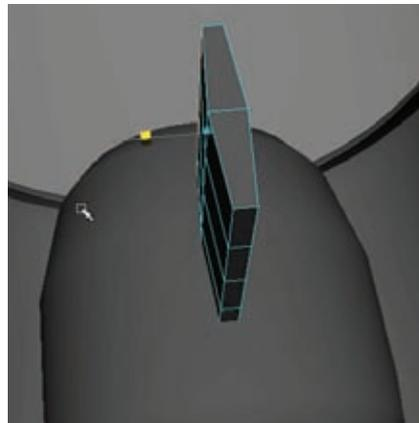

Figure 7.5
- Select the outer vertical edge loops and scale them inward slightly, tapering the ends like you see in Figure 7.5. Once they've been tapered, bevel them with a slight rounded edge.